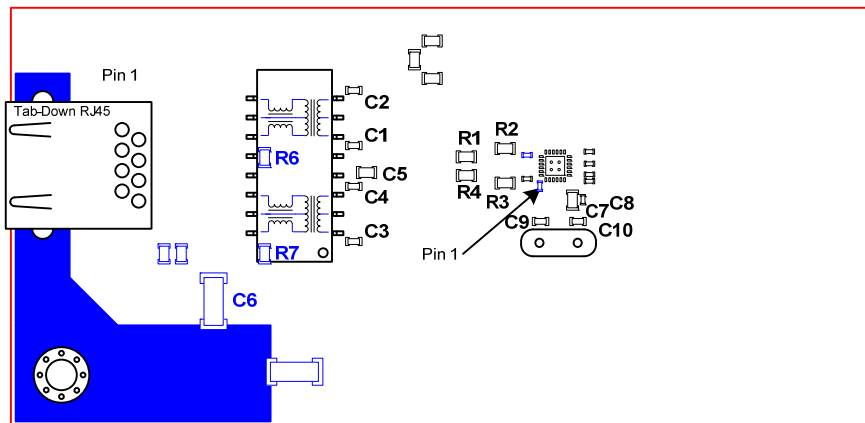

Figure No. 1
5. See Figure No. 1 for the placement of the termination resistors for the differential pairs for the LAN8720I Phy. These resistors are R1, R2, R3 & R4 in Figure No. 1.
6. Place the four optional, low-valued, common mode capacitors for each differential signal as close as possible to the magnetics. They should be placed as to create the smallest possible stub. These caps are C1, C2, C3 & C4 in Figure No. 1.
3. See Figure No. 1 below for the placement of the center tap termination components for the LAN8720I Phy. These resistors/capacitors are C5, R6, R7 & C6 in Figure No. 1.